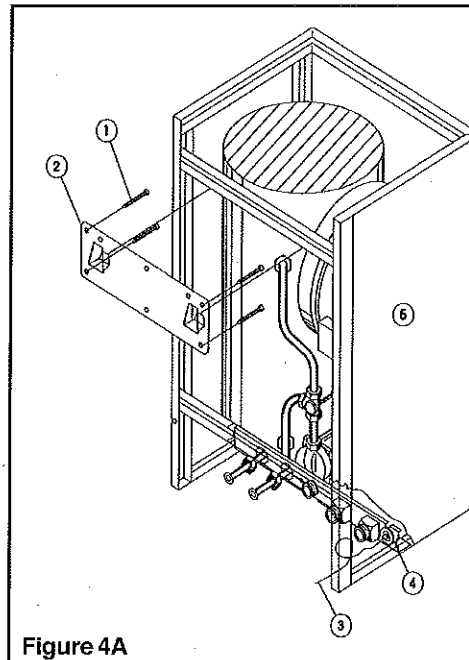

Figure 4A
2) Screw the bracket to the wall. The screws MUST be screwed in correspondence of the 16" vertical studs (see figures 4A and 5A)